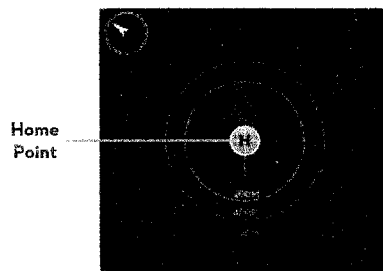
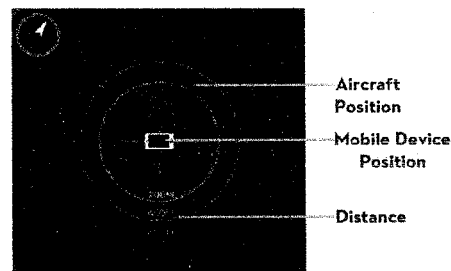

Figure 69
Figure 70
- (1) By default, the center of the radar indicates the home point recorded by the Phantom 2 Vision+. Tap the center of the radar to switch the center to your mobile device's current location.
- (2) If your mobile device contains a compass, the top portion of the Radar is the direction you are pointing. If not, the radar will be oriented due north.
- (3) Distance units are metric in Figure 69 and Figure 70. Users can switch the unit to imperial in the settings page.